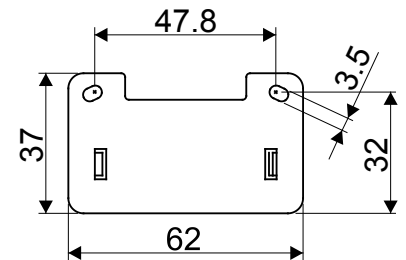

Fig. 3
3. Attach alarm indicator base plate (Fig. 3) to door frame with two screws, \varnothing max. 3 mm.